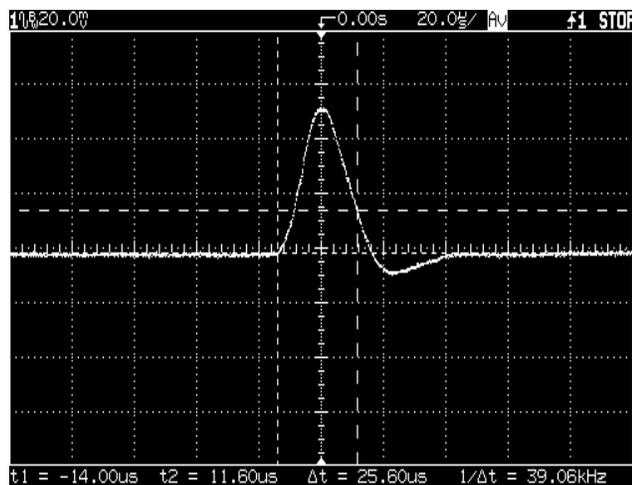

Figure A-4 Transient Response Time
- 5 Adjust the oscilloscope to display transients as shown in Figure A-4. Note that the pulse width (t2 - t1) of the transients at 15 mV from the base line is no more than 50 μ sec for the output.